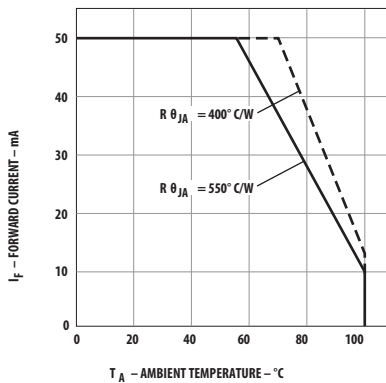

Figure 6. Maximum forward DC current vs. ambient temperature. Derating based on $T_{jMAX} = 110^\circ\text{C}$.
1. Derate linearly as shown in Figure 6.